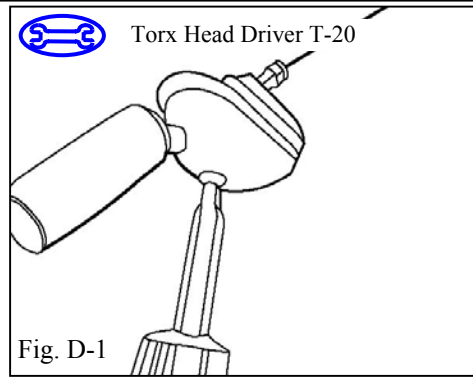

Fig. D-1
1. Using a T20 Torx head driver, remove the OEM mirror. (Fig. D-1)